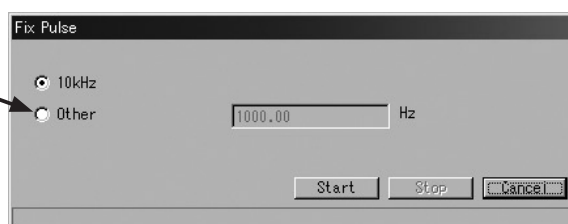

Fig.84
- ① Click on "Diag/Service (T)" at top-level menu of the screen, select "Fix Pulse" from the "Loop test" drop-down list, and click on again.
- ② A message box like the one shown in Fig. 84 appears. Select the simulated output and click on "Start" button. To provide an output other than "10kHz", select "Other" key in the pulse frequency you want for the output, and then click on "Start". Acceptable pulse frequency ranges from 0.01 to 10000Hz.